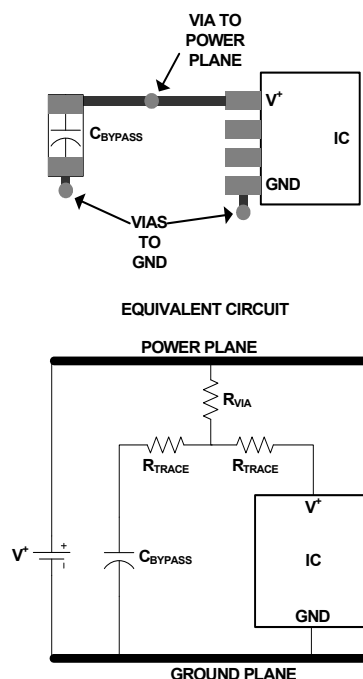
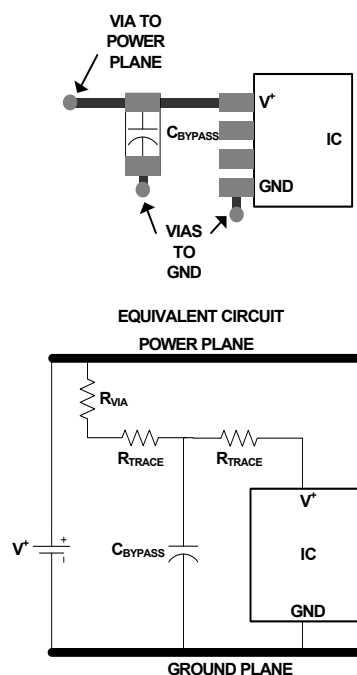

FIGURE 12. SUB-OPTIMAL BYPASS CAPACITOR LAYOUT
FIGURE 13. OPTIMAL ("T") BYPASS CAPACITOR LAYOUT
- Ideally each supply should be bypassed to ground with a $0.1\mu\text{F}$ capacitor. Minimize trace length and vias to minimize inductance and maximize noise rejection. Figure 12 demonstrates a common but non-ideal PCB layout and its equivalent circuit. The additional trace resistance between the bypass capacitor and the power supply/IC reduces its effectiveness. Figure 13 demonstrates a better layout. In this case there is still series trace resistance (it is impossible to completely eliminate it), but now it is being put to good use, as part of a “T” filter, attenuating supply noise before it gets to the IC, and reducing the amount of IC-generated noise
that gets injected into the supply. Follow the good supply bypassing rules shown in Figure 13 to the extent possible.